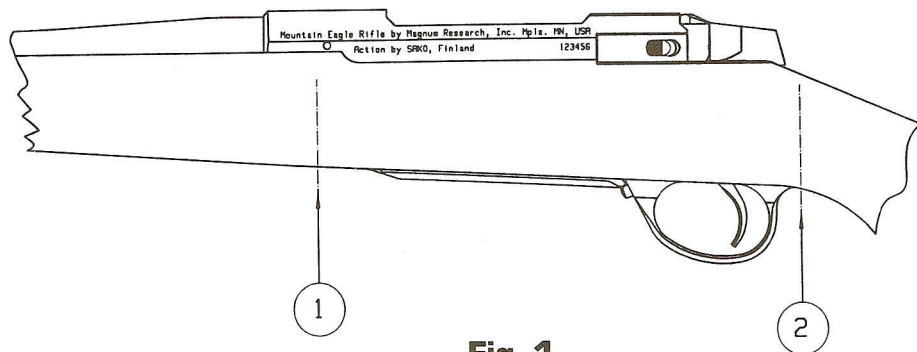

Fig. 1
IDENTIFICATION (Fig. 1)
- Check the tightness of fastening screws 1 and 2 (Fig. 1 – page 3).